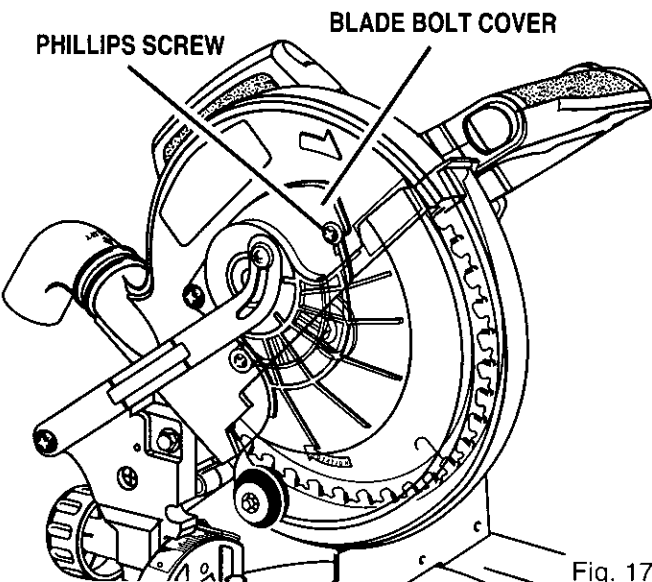

Fig. 17
See Figures 17, 18, 19 and 20.
■ Loosen the phillips screw on the blade bolt cover until blade bolt cover can be raised. See Figure 17.
See Figures 17, 18, 19, and 20.
- Loosen the phillips screw on the blade bolt cover until blade bolt cover can be raised. *See Figures 17, 18, and 19.*